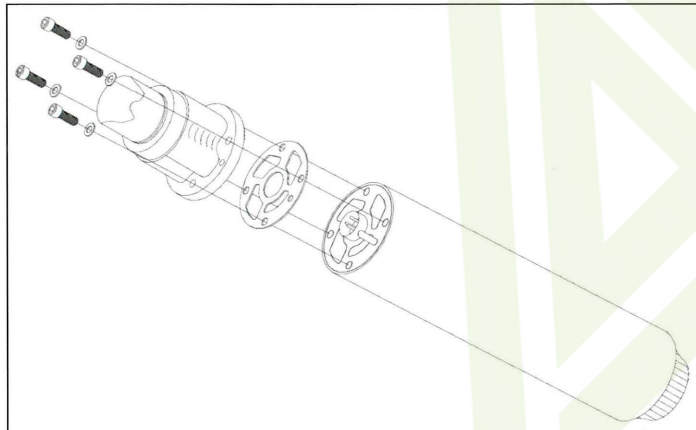

Figure 19 Replacing the gasket
4. Replace the old gasket with a new one provided. Place the new gasket on the new FSP so that all the holes align. ( see Figure 19)